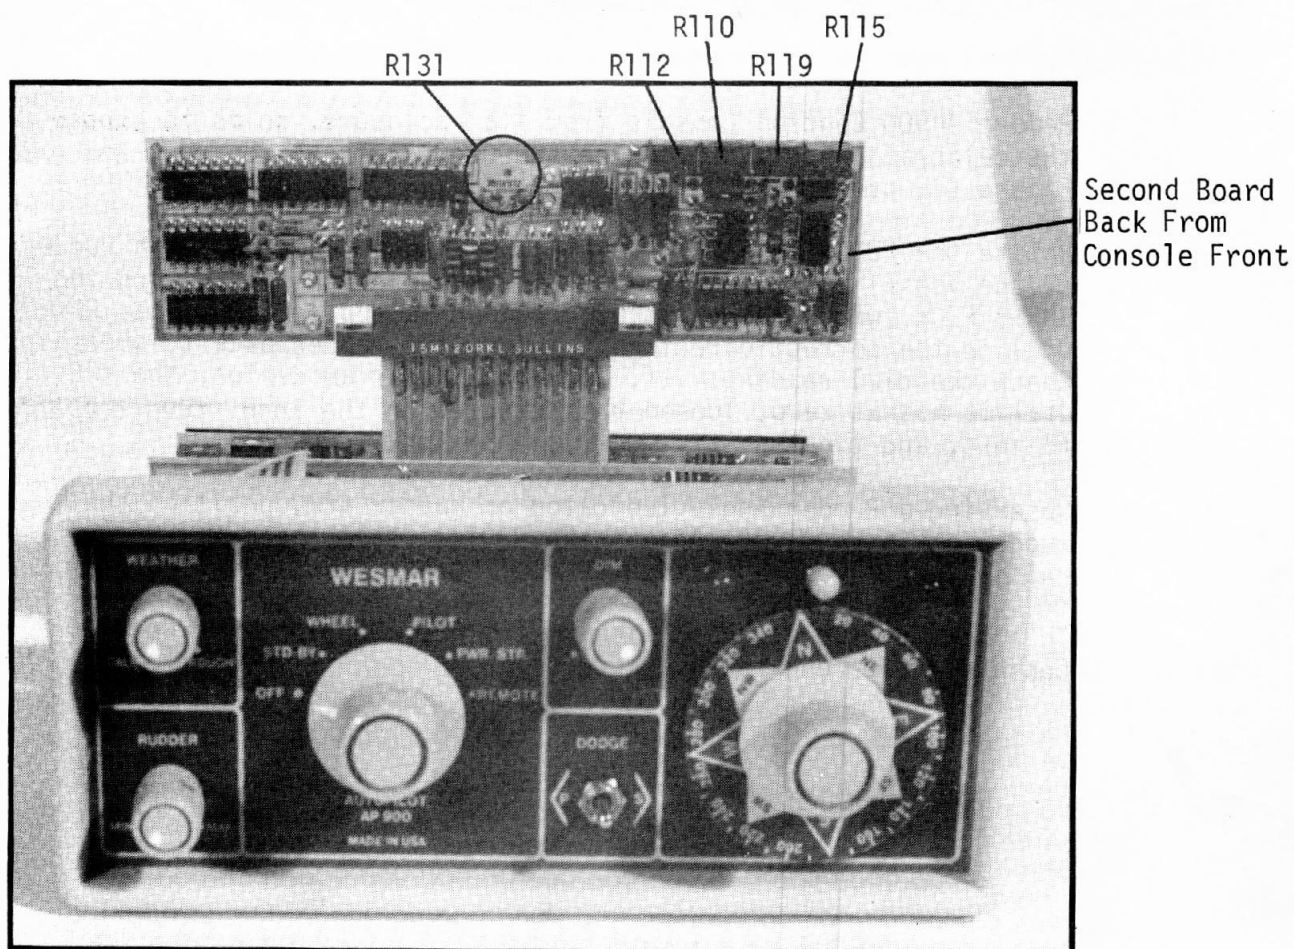

FIGURE 64. AP900-4016 SENSE AMPLIFIER BOARD
1. No adjustments are necessary within the Digital Compass itself. All calibrations are made within the AP900 Control Console. Remove the Control Console from its enclosure. Leave the cables attached. Slide the panel forward to expose the AP900-4016 circuit board as shown in Figure 64, page 56.
7. Using a small screwdriver, adjust R115 on AP900-4016 board for a 0 degree reading on DC700/AP (Figure 64, page 56).
9. Again using a small screwdriver, adjust R110 for 90 degree reading on DC700/AP digital display (Figure 64, page 56).